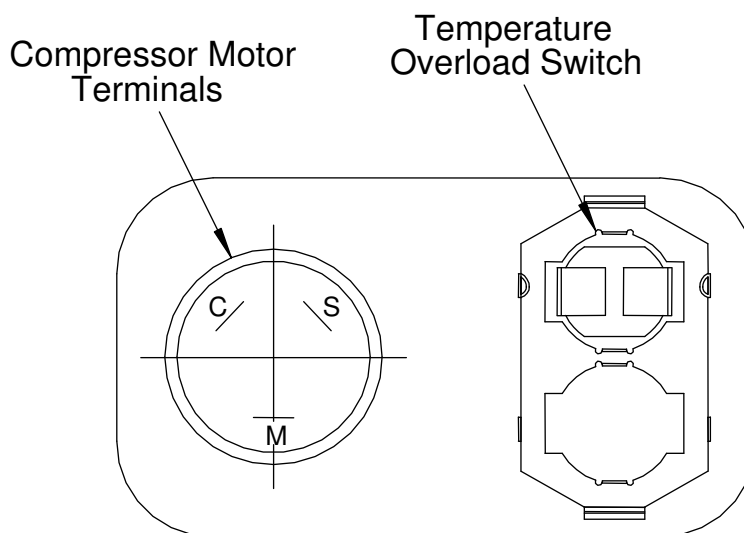

Figure 8 Compressor Terminals
3. Remove the terminal box cover from the top of the compressor motor to expose the three terminals M, S, and C. See Figure 8. Disconnect wires 7, 8, and 9 from terminals C, M, and S respectively.